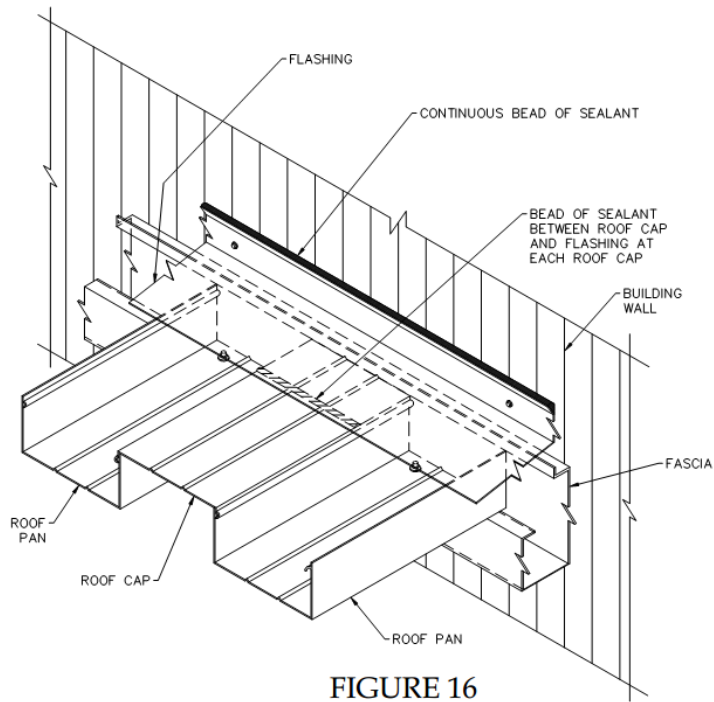

FIGURE 16
- C. Run a continuous bead of clear sealant along the caulk tray of the flashing where it intersects the building wall (Figure 16). Neatly wipe the sealant in to ensure that it bonds to the wall and the caulk tray of the flashing leaving no gaps. The use of tape on the wall may be required to ensure a neat and clean appearance.
- D. If pan and cap roof decking is used, a bead of sealant is required between the top of each cap and the bottom of the flashing to prevent capillary action on the cap (Figure 16).